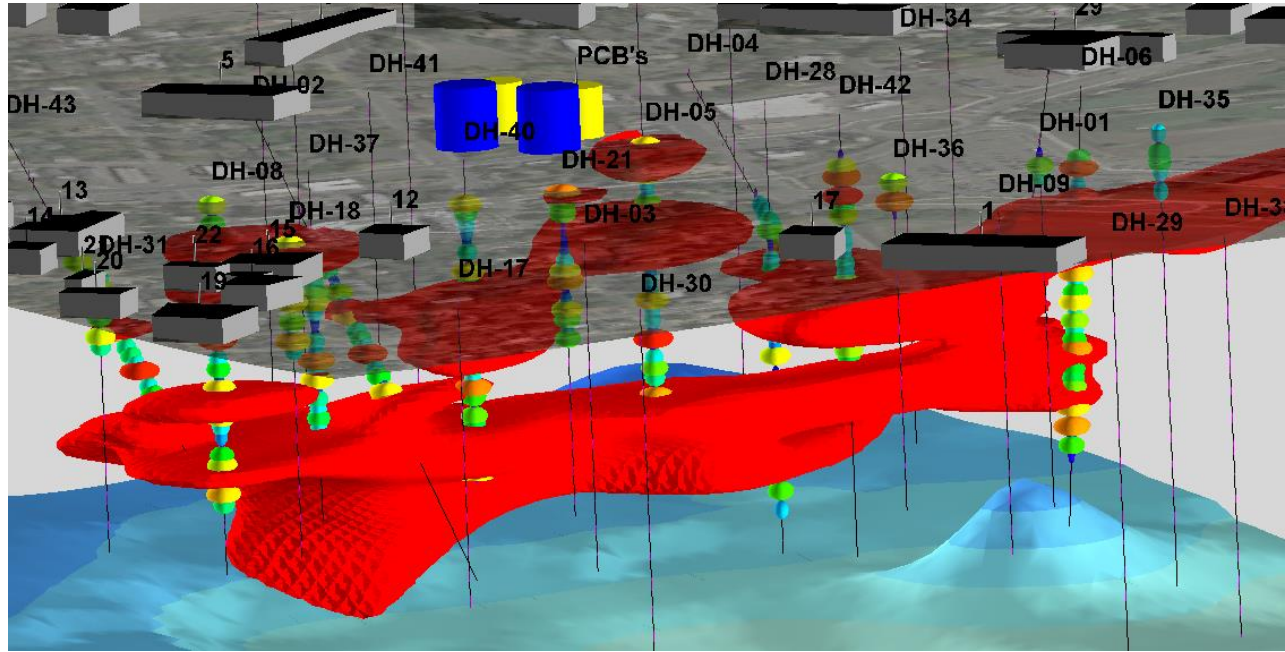

Figure 5. Infrastructure Floating Above Contaminant Model
- **Infrastructure:** Plotting infrastructure features (e.g., buried tanks, buildings, pipes, etc.) can visually orient the viewer (Figure 5). If infrastructure is to be included, we'll need to mutually establish the most expedient way of going about it (e.g., importing Shape files, digitizing features from imagery).